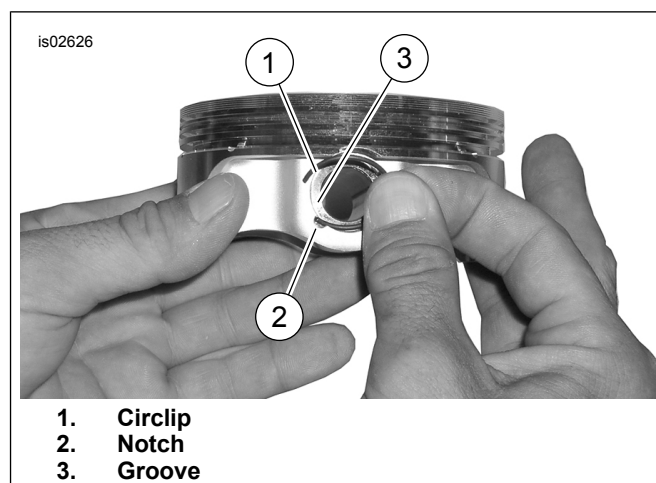

Figure 3. Circlip and Piston
1. See Figure 3. Insert the open end of the circlip (1) into the notch (2) on the groove (3) around the piston pin boss so the gap is at the straight up or straight down position when installed.